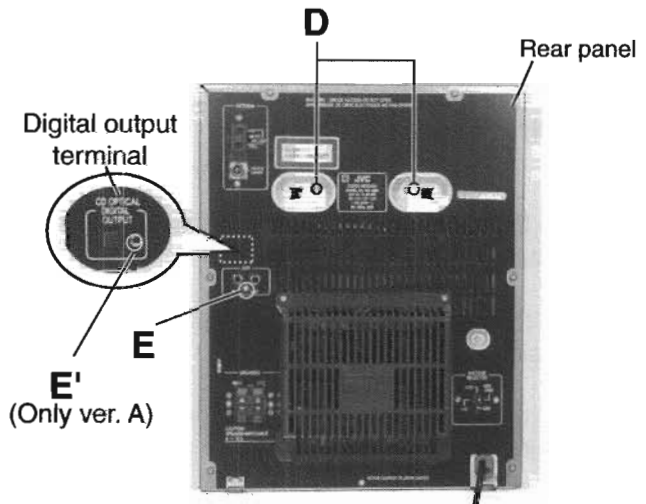

Fig.4
■ **Removing the CD changer mechanism assembly (See Fig.4 to 6)**